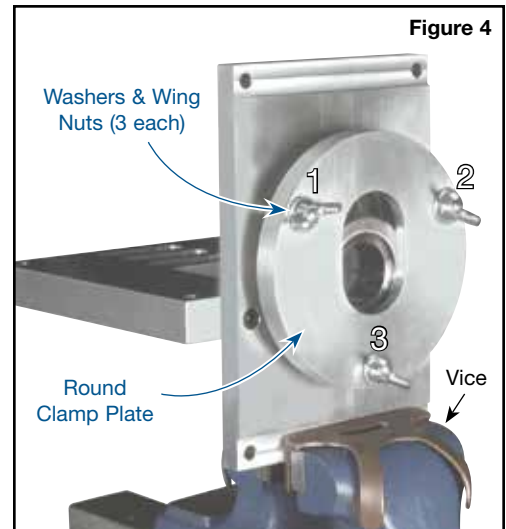

Figure 4
- f. Install Sonnax round clamp plate over the installed three threaded studs (**Figure 4**).
- a. Mount the fixture in a vise (**Figure 4**). Test fit the guide pin in the bore. Make sure pin slides in and out freely. If pin does not slide smoothly, clean guide pin and valve/pump body bore, lubricate pin with cutting fluid and recheck fit.